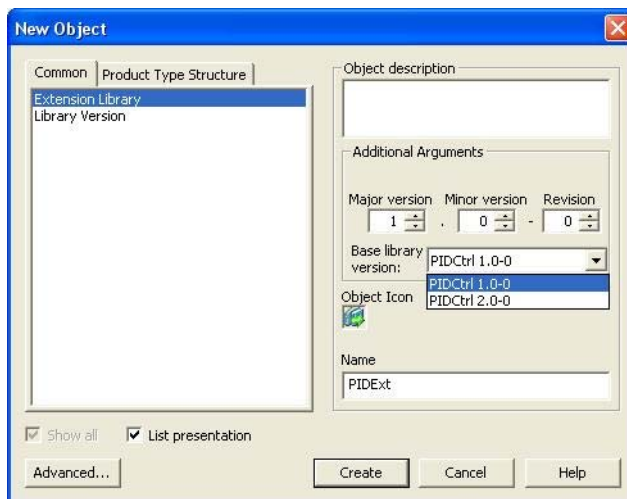

Figure 423. Creating New Extension Library - New Object Dialog Box
3. Select **Extension Library** and type the new library name in the **Name** field. Select version number for the new extension library and the version of the base library to connect with, refer to Figure 423.